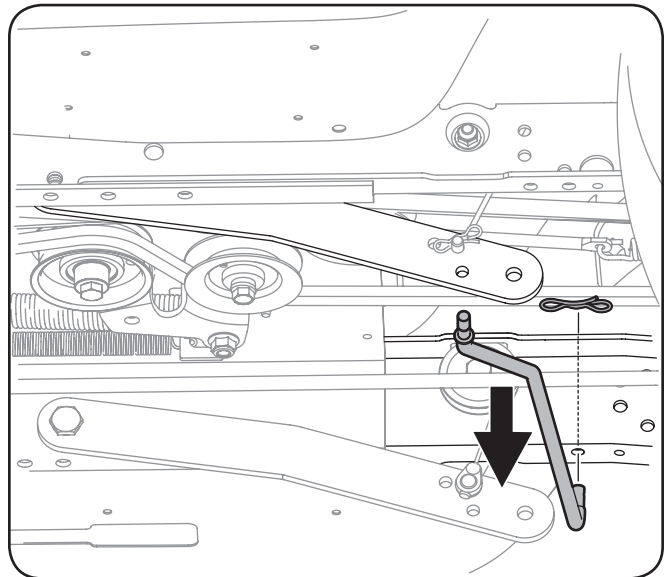

Figure 3-10
- The right side of the anti-sway rod is secured by either a hairpin clip or a flange nut. Remove whichever is present and store the anti-sway rod and hardware in a safe place. See Figure 3-10.